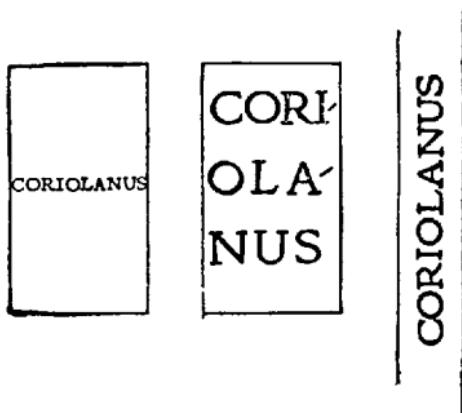

FIG. 95.
is put across as one word, as at fig. 95 (1),